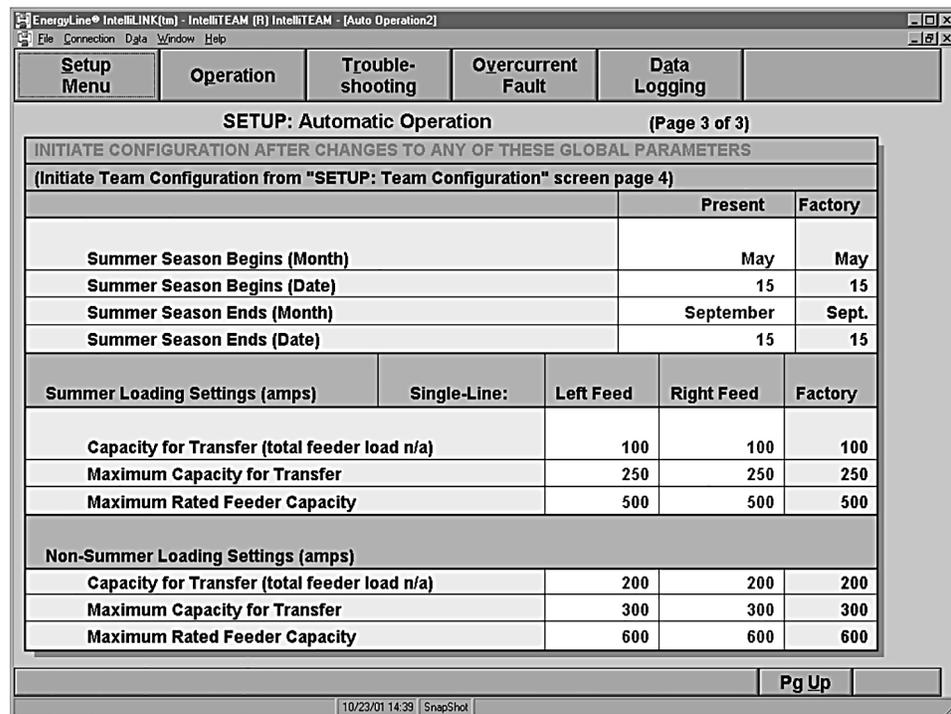

Figure 15. Page 3 of the *Setup>Automatic Operation* screen for a 5801 control.
**STEP 3.** At Page 1 of the *Setup>Automatic Operation* screen, click on the **PgDn** button to display Page 3 of the *Setup>Automatic Operation* screen. See Figure 15.